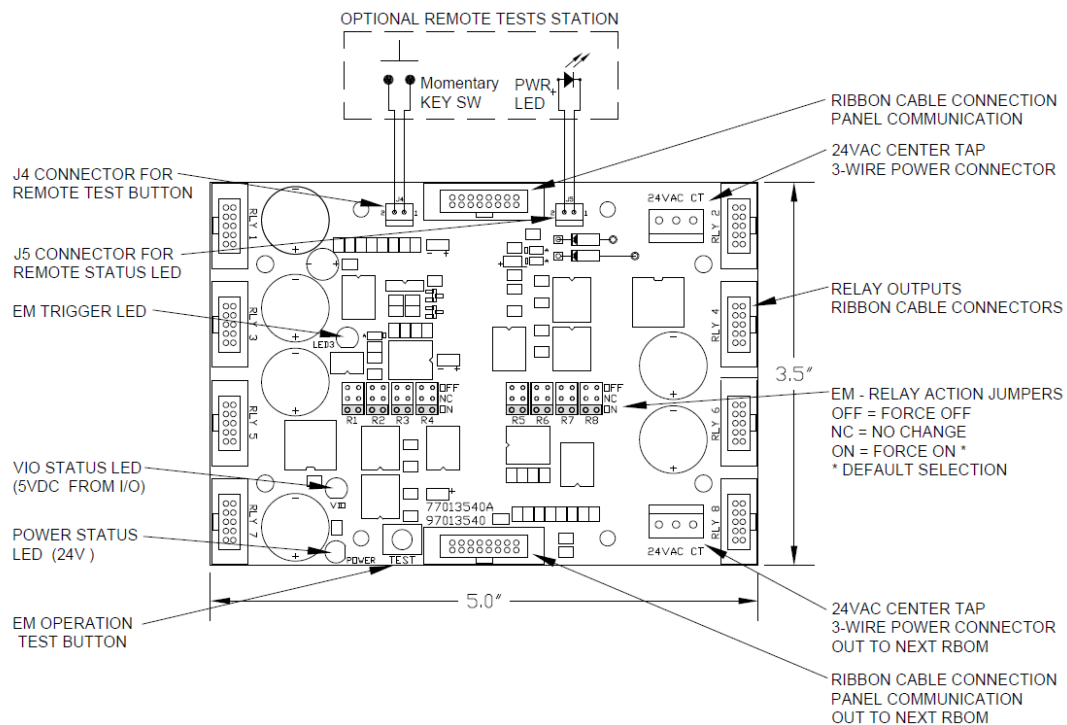

Figure 7 – RBOM Detail
- h. Verify correct RBOM jumper settings for all Normal & Emergency relays. EM relays should be set with the jumper "ON". (Figure 7)